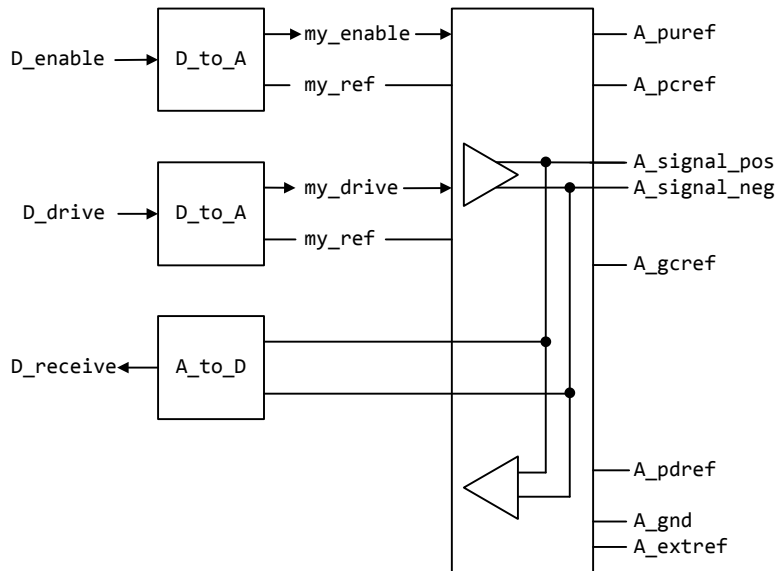

Figure 29 - Example SPICE, Verilog-A(AMS) or VHDL-A(AMS) Implementation of a True Differential Buffer
The D_to_A or A_to_D adapters used for SPICE, Verilog-A(MS) or VHDL-A(MS) files may be set up to control or respond to true differential ports. An example is shown in Figure 29.